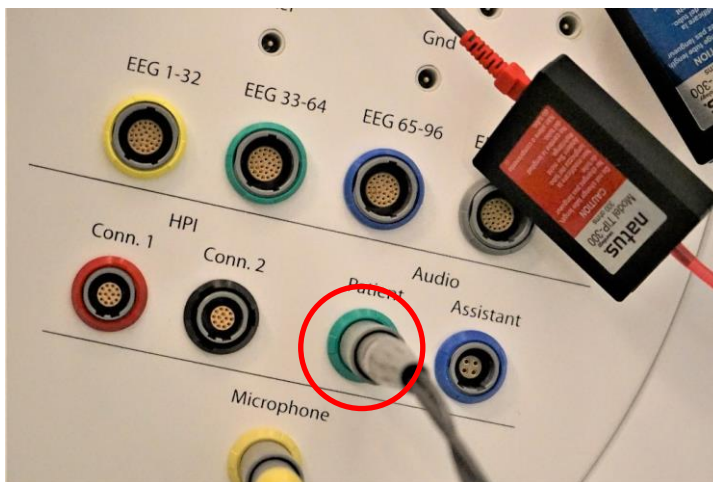

Figure 14: Audio connection on the probe unit side panel inside the MSR.
- Plug the earphones into the Patient Audio connection on the probe unit side panel (Figure 14).